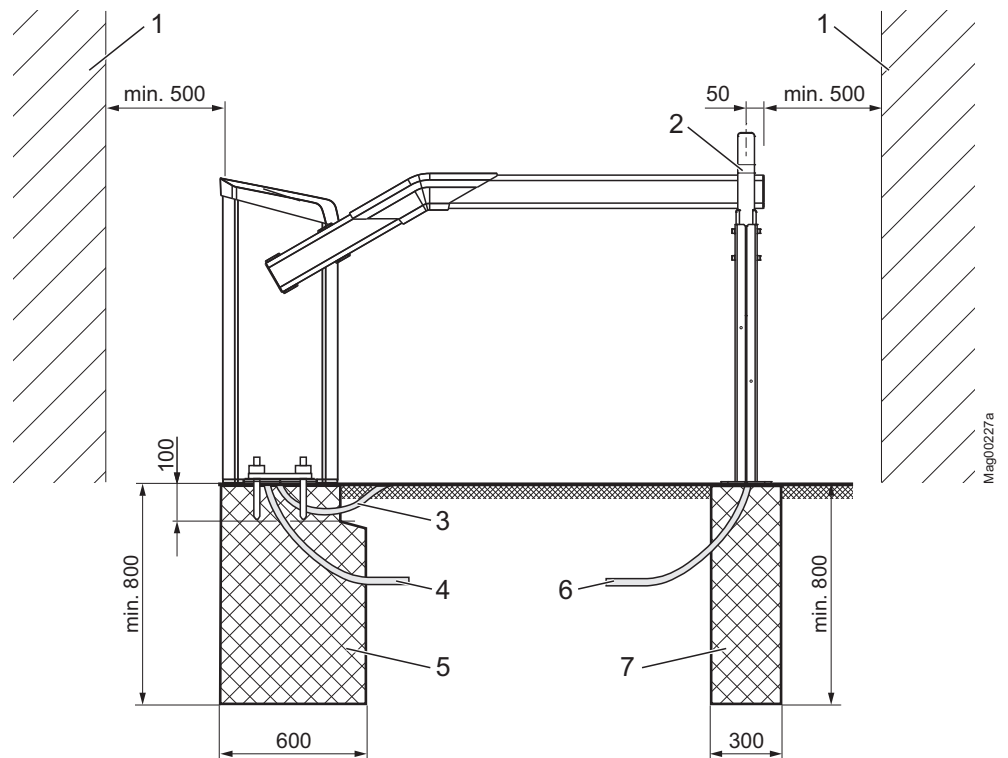
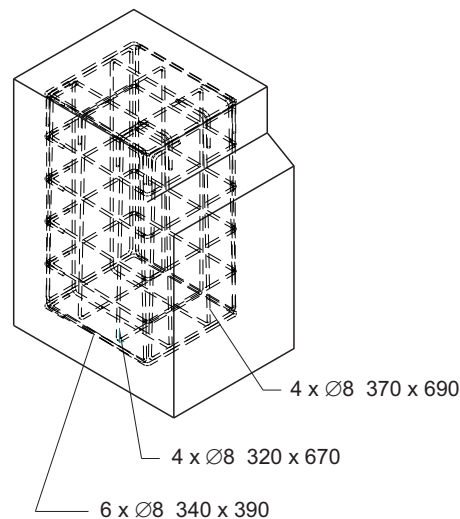

Fig. 13: Assembly boom system, here illustrated for barrier type "Access/Parking" (dimensions in mm)
Fig. 15: Reinforcement grid (dimensions in mm)
<p>Danger of crushing and shearing if the safety distance between the barrier boom and other objects is too low!</p> <p>A closing or opening barrier boom can cause severe injuries from crushing if the safety distance to other objects is too low!</p> <ul style="list-style-type: none"> – Keep a safety distance of at least 500 mm between the barrier boom and other objects, such as walls, masonry or houses. → See page 23, chapter 2.7. – Assemble and install barrier system according to Fig. 13.
- Keep a safety distance of at least 500 mm between the tip of the barrier boom and other objects, such as walls, masonry or houses. → See page 47, Fig. 13.
→ See page 47, Fig. 13 and page 49, Fig. 15.
1. Dig foundation hole pursuant to Fig. 13 and Fig. 14.
2. Place reinforcement grid pursuant to Fig. 15 in the foundation hole.
→ See page 47, Fig. 13 and page 52, Fig. 16.